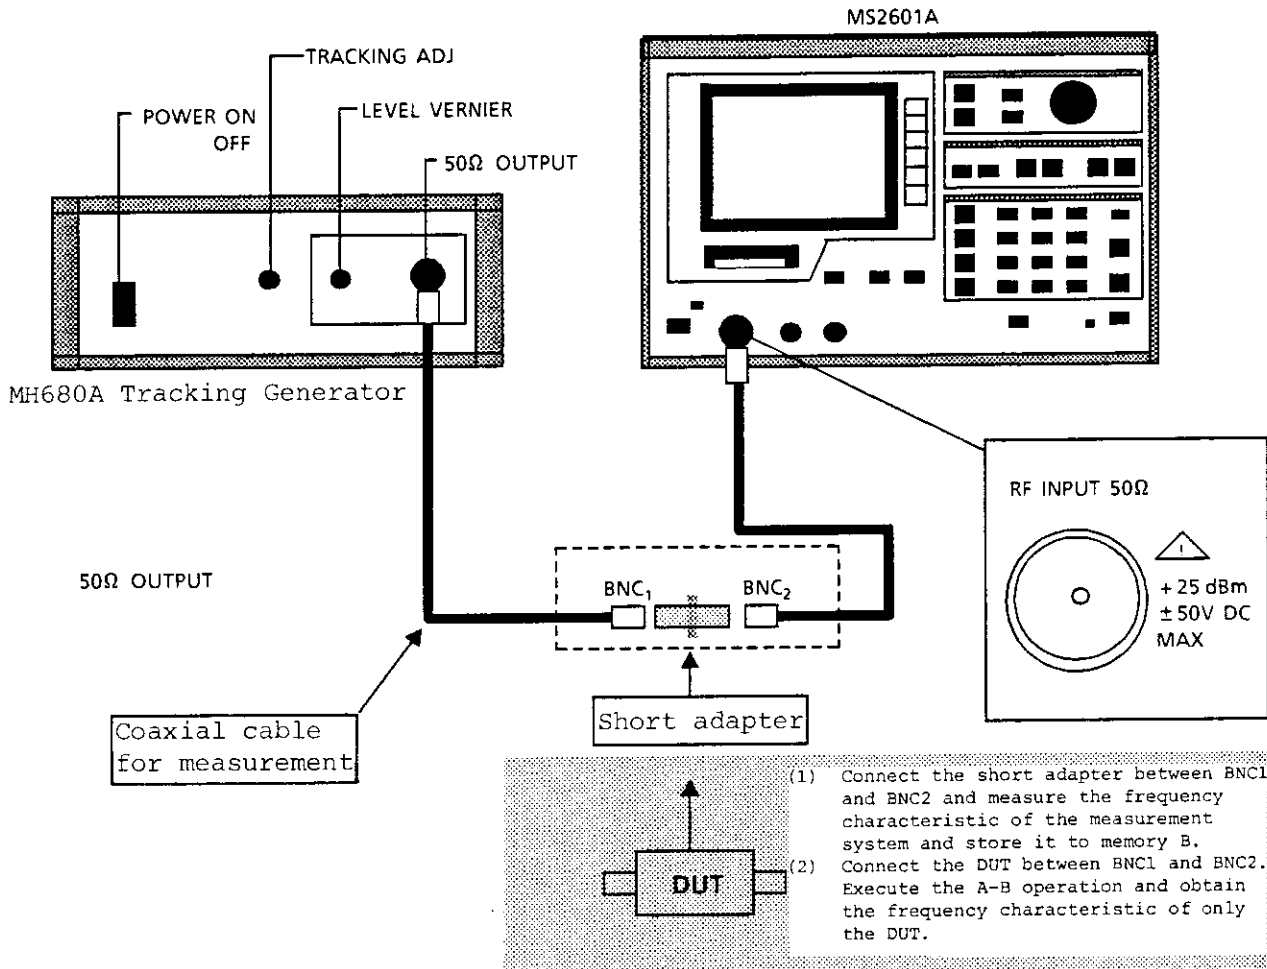

Fig. 6-12 Measurement System Calibration and Measurement
| 2    | Connect the MH680A 50 Ω OUTPUT to the MS2601A RF INPUT as shown in Fig. 6-12. However, connect the short adapter between BNC1 and BNC2 instead of the DUT. |
- 10 Remove the DUT and connect the short adapter between BNC1 and BNC2 (Fig. 6-12).
- 15 Remove the short adapter and connect the DUT between BNC1 and BNC2 (Fig. 6-12).